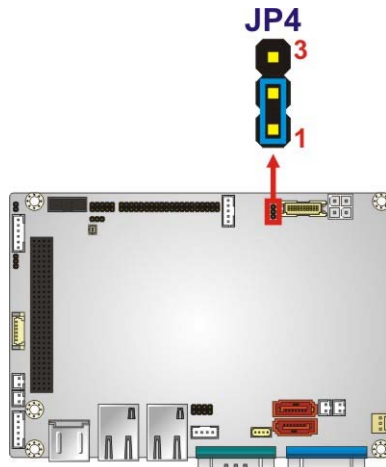

Figure 4-3: LVDS Voltage Selection Jumper Location
- Jumper Location:** See Figure 4-3